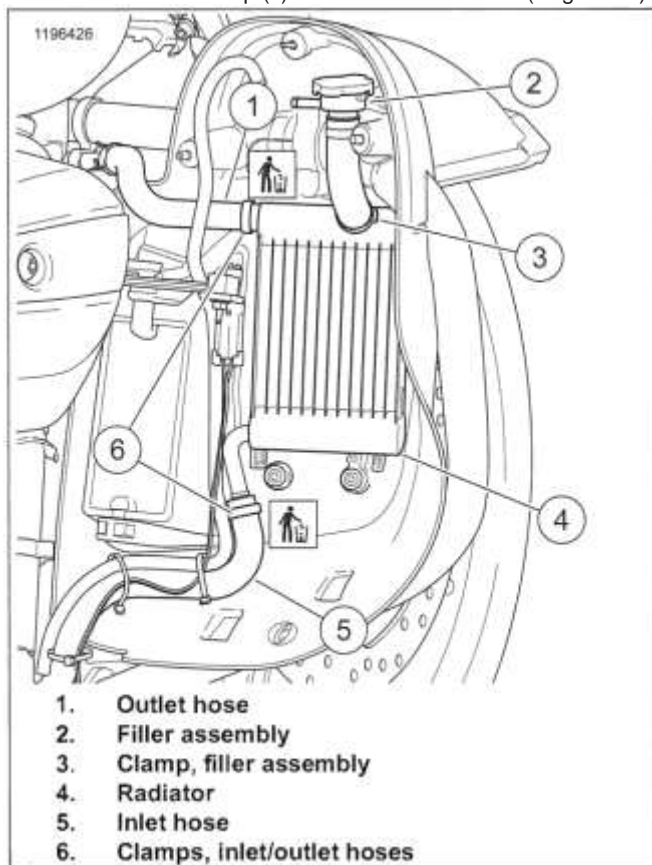

Figure 7-16. Radiator
1. See Figure 7-16. Remove inlet hose (5).
- a. Discard Clamp (6).
- b. Remove inlet hose (5).
2. Remove outlet hose (1).
- a. Discard clamp (6)
- b. Remove outlet hose (1).
3. Remove radiator (4).
4. **Right side:** Remove filler assembly (2), if necessary.
- a. Remove clamp (3).
- b. Remove filler assembly (2).
1. See Figure 7-16. **Left side:** Install ECT sensor if removed. See ENGINE TEMPERATURE (ET) SENSOR (Page 8-96).
3. **Right side:** Install filler assembly (2), if removed. a. Install clamp (3).
4. Install radiator (4).
5. Install outlet hose (1).
- a. Install **new** clamp (6). See CRIMP CLAMPS (Page 4-16).
6. Install inlet hose (5).